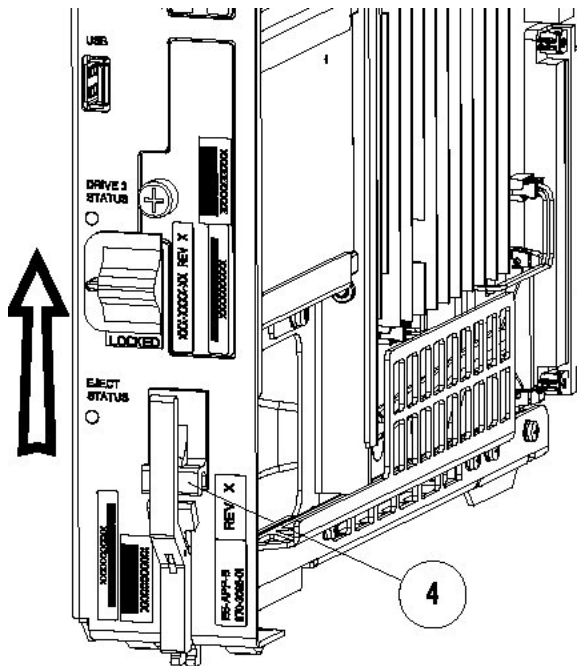

Figure 10: E5-APP-B Card Inject Hardware Switch, UNLOCKED
1. On the E5-APP-B card, slide the Ejector switch (4) up to the UNLOCKED position. See Figure 10: E5-APP-B Card Inject Hardware Switch, UNLOCKED.